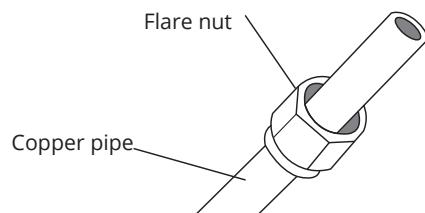

Fig. 7.5
- Place flare nuts on both ends of pipe. Make sure they are facing in the right direction, because you can't put them on or change their direction after flaring. See Fig. 7.5